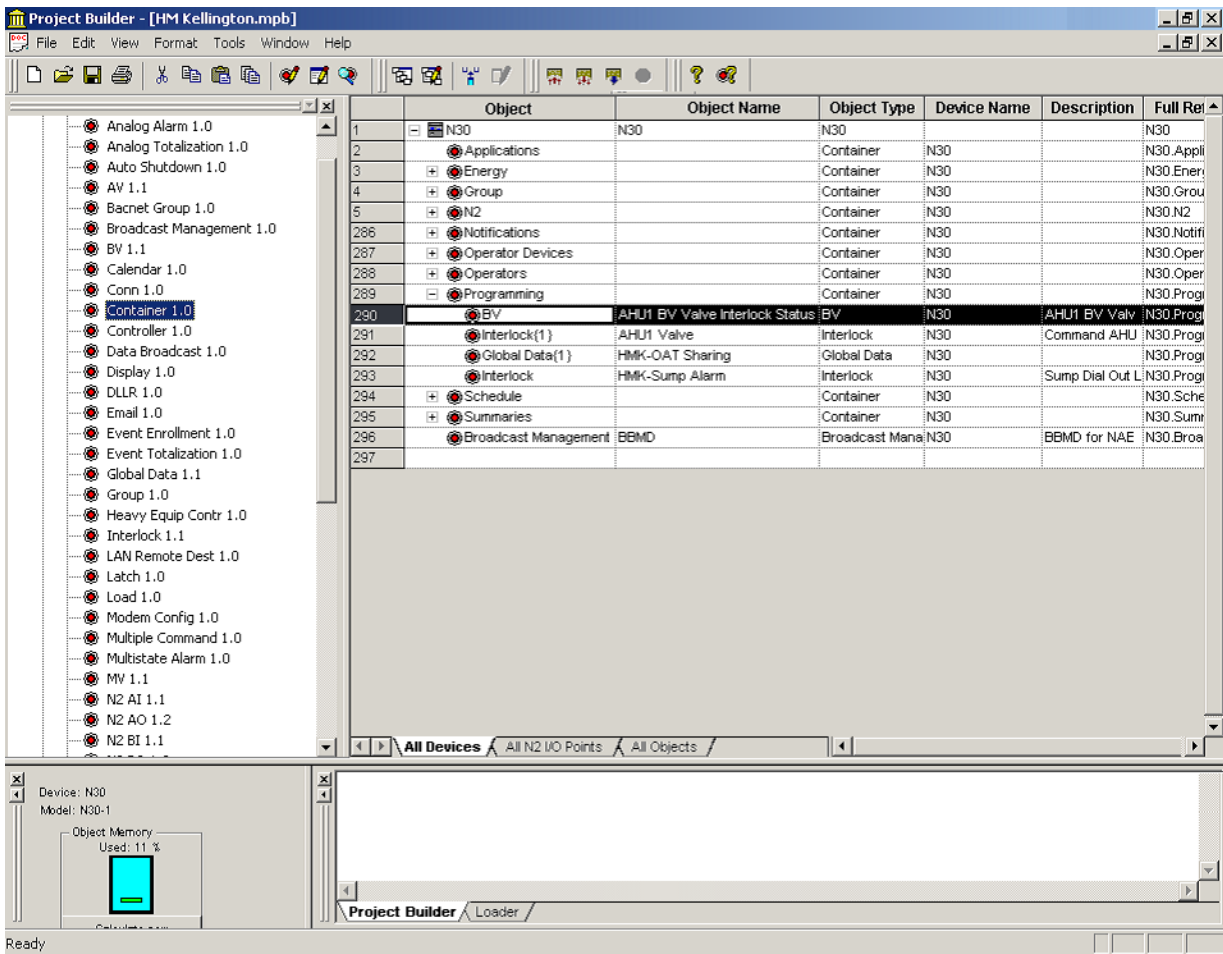
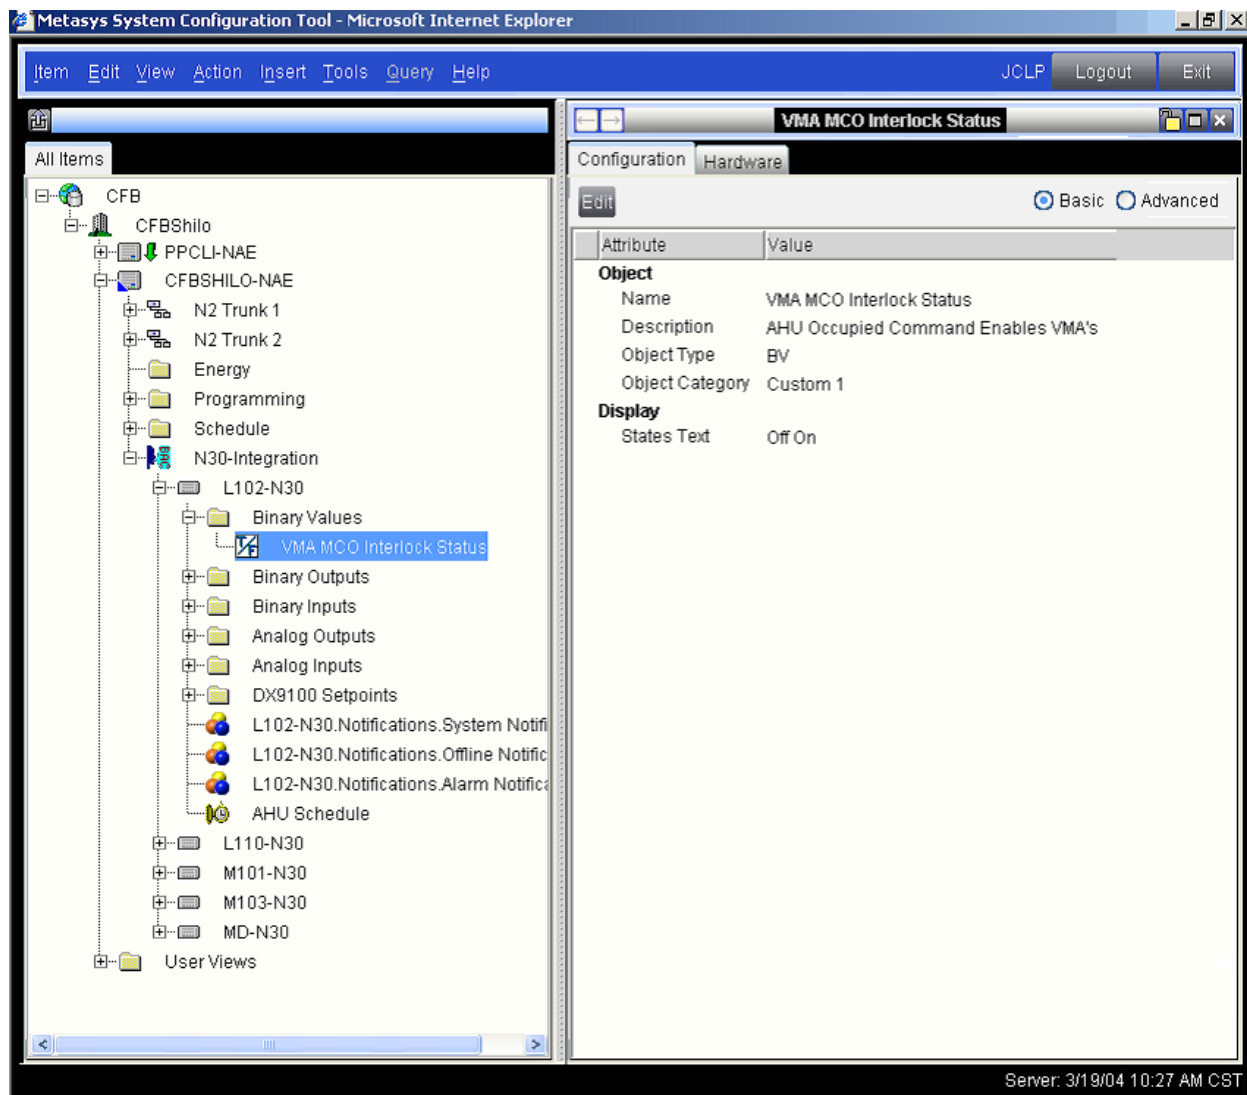

Figure 7: Project Builder - Interlock (No Status)
Figure 8: NAE - Status from BV Object
1. For any interlocks in the N30, create a dummy BV object that is commanded when the Interlock is enabled. Interlocks do not get passed to the NAE, so you cannot see if the Interlock is enabled (Figure 7). By adding a BV, this object maps back to the NAE, and you receive the status of the interlock (Figure 8).